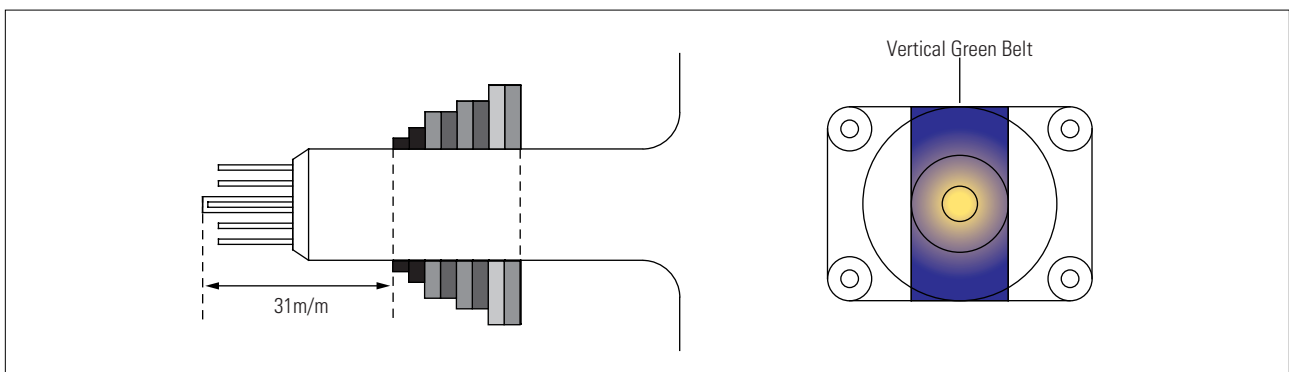

Fig.4-2 Center Convergence Adjustment
7. Loosen the clamp screw holding the yoke. Slide the yoke backward or forward to provide vertical green belt. (Fig. 4-2).